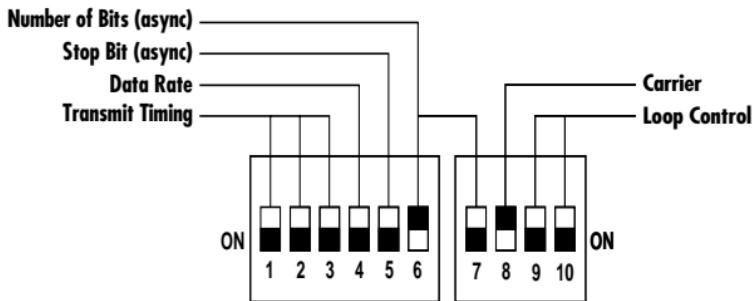

Figure 3-1. The internal DIP switches.
Each SFOM-HS2 has a three-position loop-activation switch on the front panel, plus ten internal DIP switches (see **Figure 3-1** below). Use these switches to configure the SFOM-HS2 prior to installation. (See **Chapter 4** for more about configuration options.)
- c. Use switches 5, 6, and 7 to set frequency allowance and character length (if necessary, refer to **Table 3-1 on page 17, Figure 3-1 on page 15**).
To activate loops from your DTE, DIP switches 9 and 10 must be set to ENABLE (see **Figure 3-1 on page 15** and **Table 3-1 on page 17**).